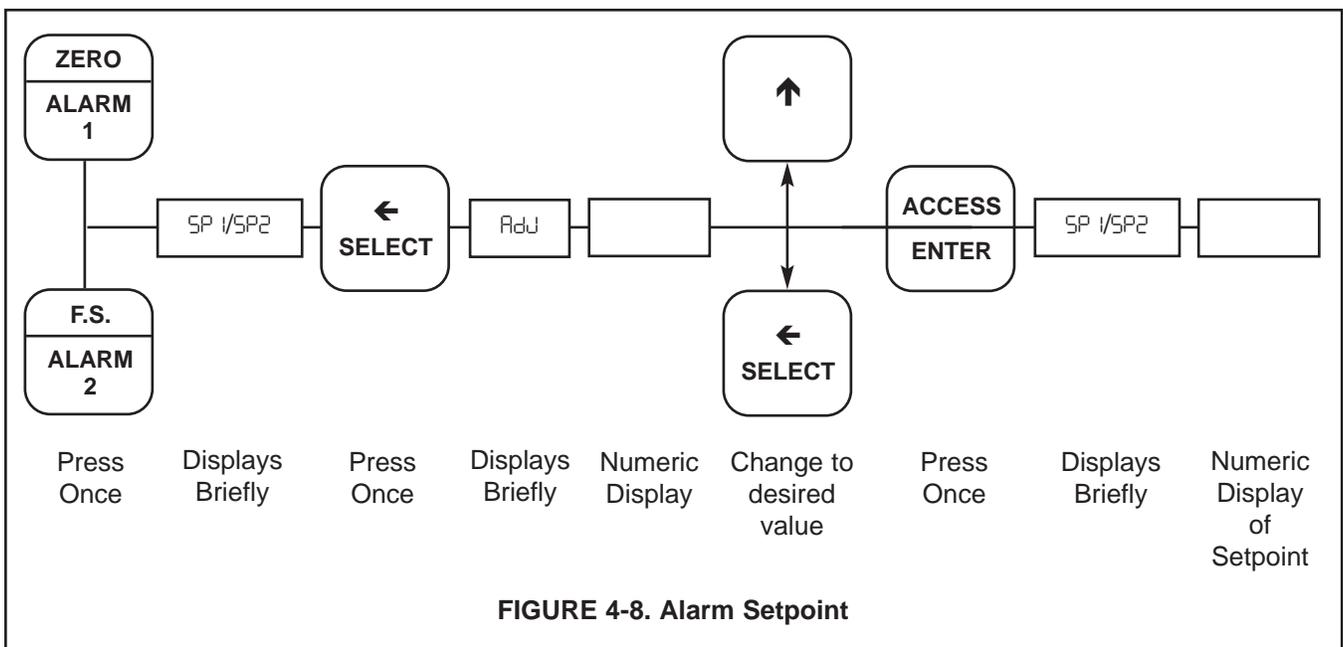

FIGURE 4-8. Alarm Setpoint
4.11 ALARM SETPOINT. Configure the analyzer as described in sections 4.5 through 4.10 before programming the alarm setpoints. Refer to Figure 4-8.